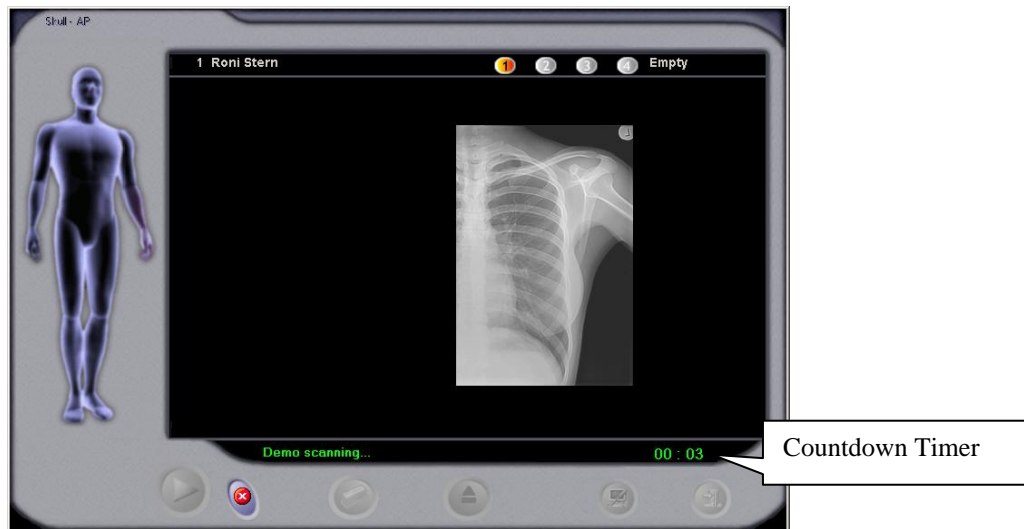

Figure 5: Image Preview During Scan
- A countdown timer is displayed on the lower right indicating the time left for reading the plate (Figure 5).